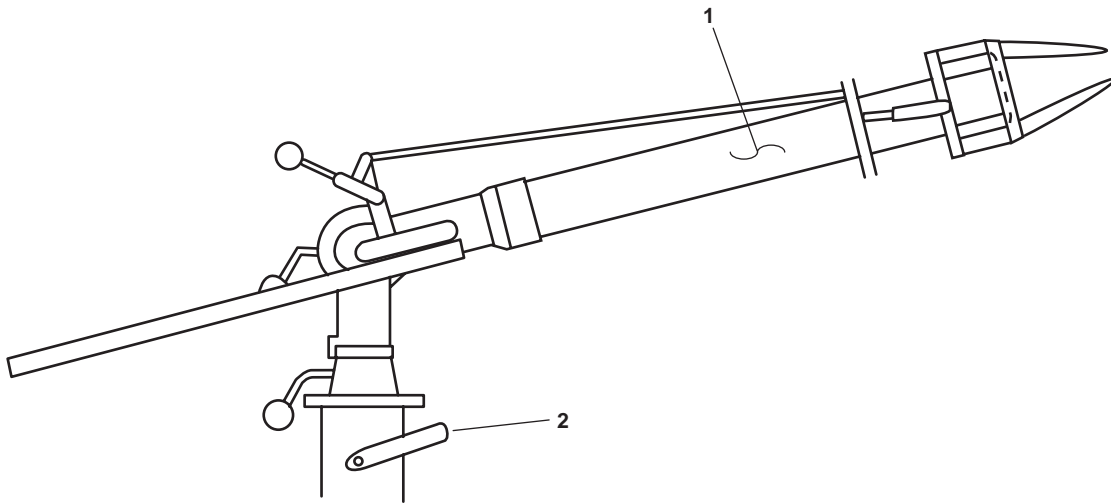

Figure 4. Fire Monitor
5. Direct (aim) the fire monitor (figure 4, item 1) to place foam/water at the base of the fire.
6. OPEN the cutoff valve (figure 4, item 2) for the desired monitor.
- a. CLOSE the cutoff valve (figure 4, item 2) for the monitor.